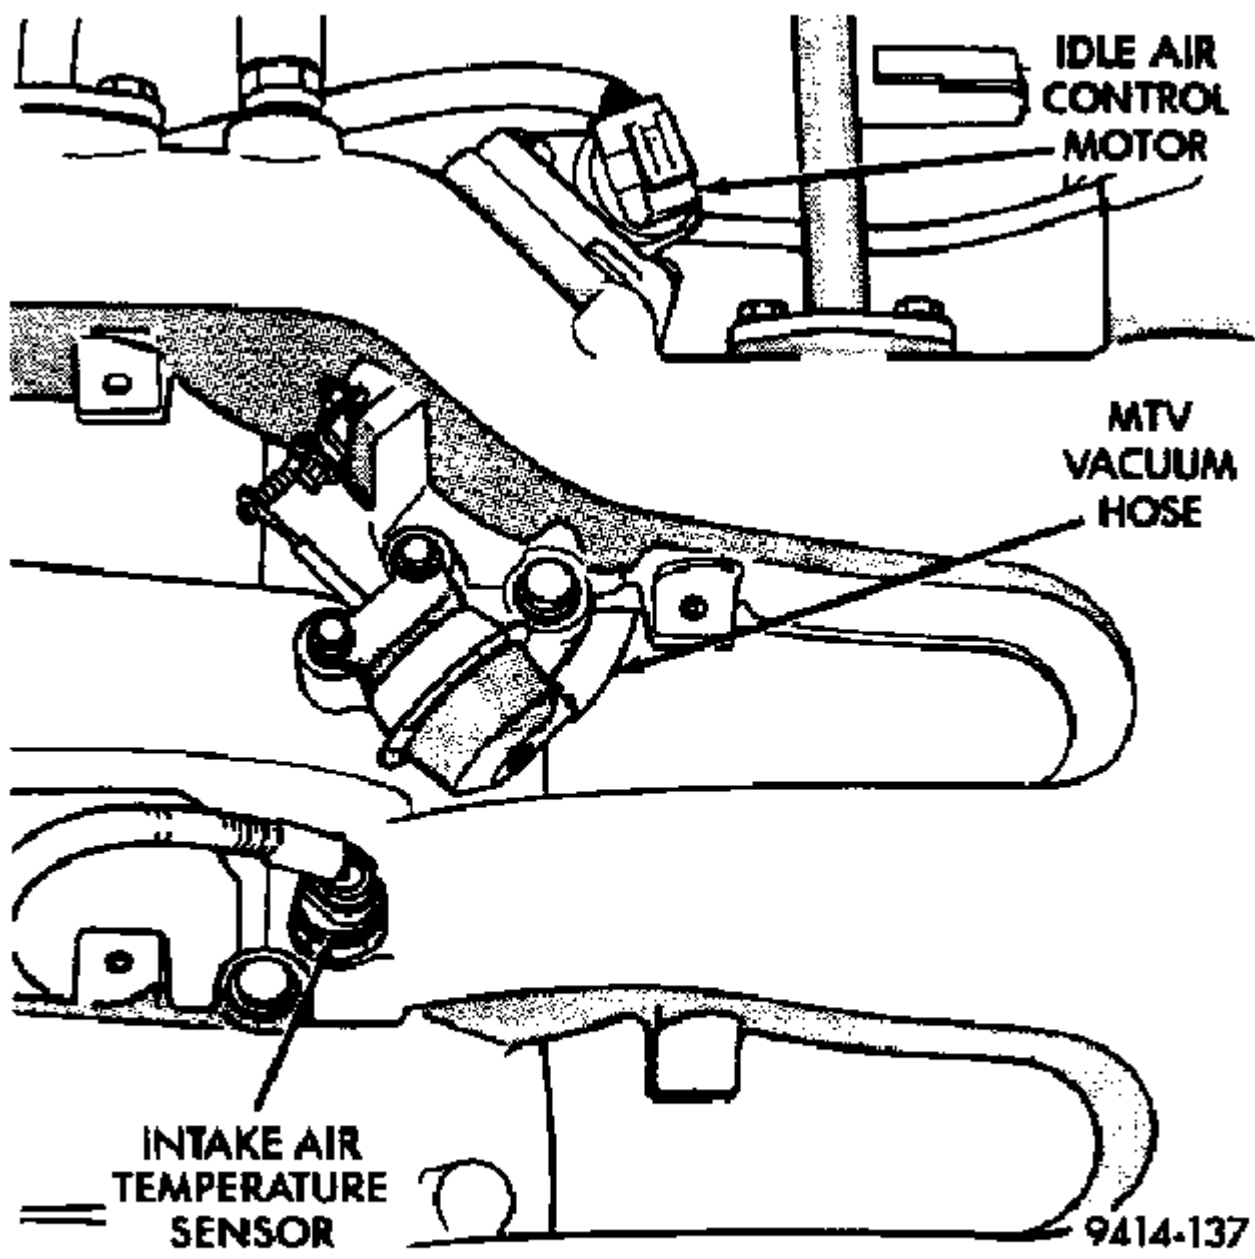

Figure 2
36. Connect the vacuum hose to the MTV (Figure 2).
37. Connect the IAC and intake air temperature sensor electrical connectors (Figure 2).